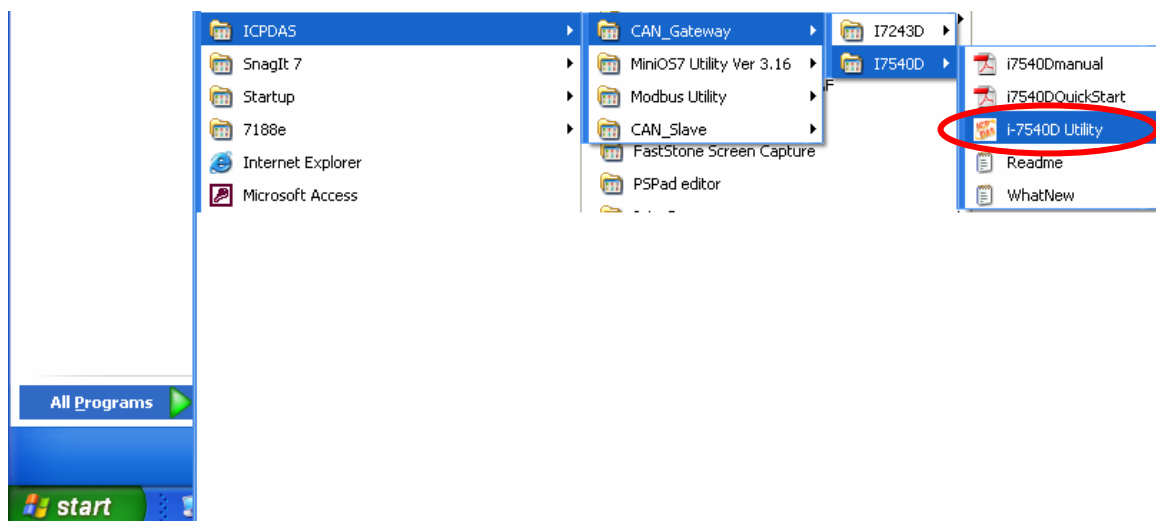

Figure 3-6: You can find “i-7540D Utility“ at the “Start” in the task bar
Step 7: After finishing the installation of the i-7540D Utility, users can find it as shown in figure 3-6.